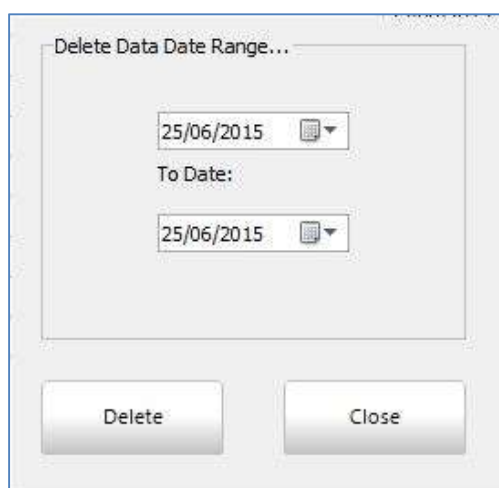

Figure 56
- Select the data range to be deleted (**Figure 56**)